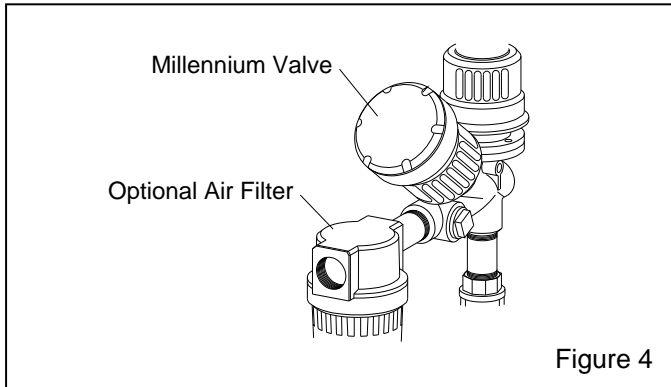

Figure 4
### 2.3 Install Optional Air Filter (Moisture Separator) Figure 4, NOTE: The filter is included with blast machine systems.
**2.3.1** Install a compressed-air filter to the inlet valve as shown in Figure 4. It is recommended that a filter be installed at this location to remove moisture from air before it enters the machine. If problems with moisture